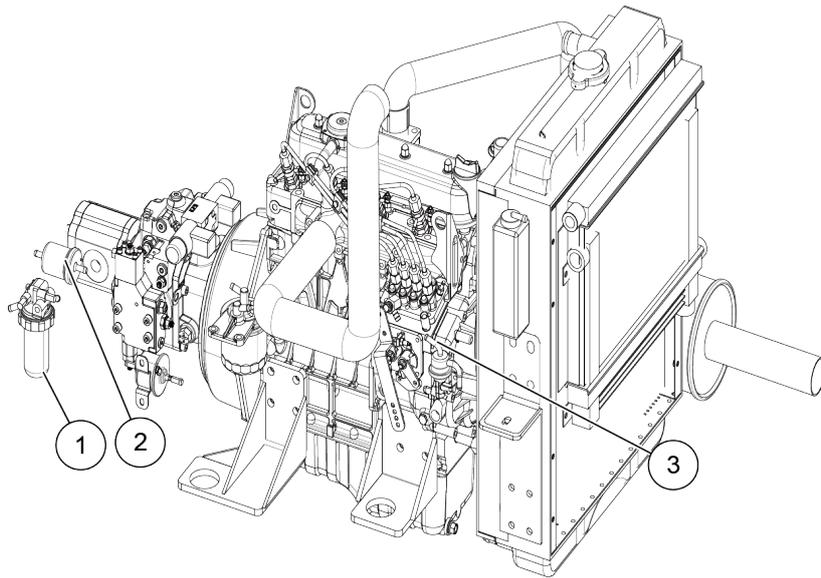

Figure 6-6 Replacing fuel filter
(1) Cap (2) Level gauge
Step 3: Unscrew the primary fuel filter (1) and the secondary fuel filter (2) with a filter wrench, and place a container under the filter to prevent fuel splashing, as shown in Figure 6-6;